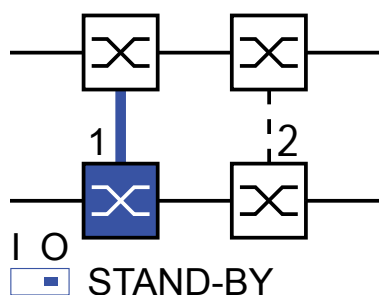

Figure 15: Two-Switch coupling
- ☐ Select two-Switch main coupling (see fig. 15).